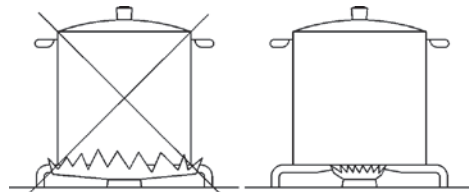

FIG. 4
- Use suitable pans for each burner (**see the table above and fig. 4**).